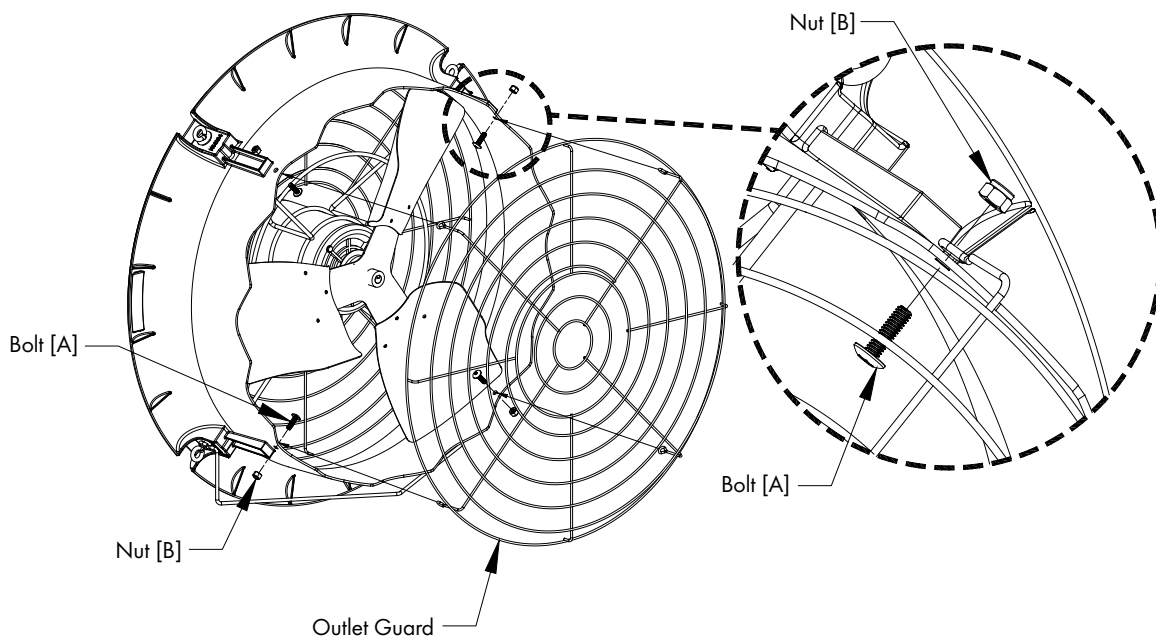

Figure 4
The Outlet Guard is the one with the small inner hole. With the eyelets on the guard pointing toward the fan, align the eyelets with the holes in orifice on the outside of the fasten using (4) Bolts [A] and Nuts [B]. The head of the bolt goes on the inside of the orifice and the nut goes on the outside. See Figure 4.